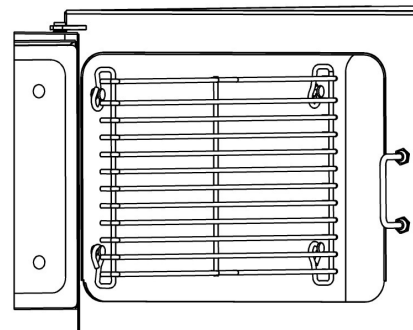

Figure 3-6 Slide Rack
- See Figure 3-6. Each rack has four loops: two at the top and two at the bottom.